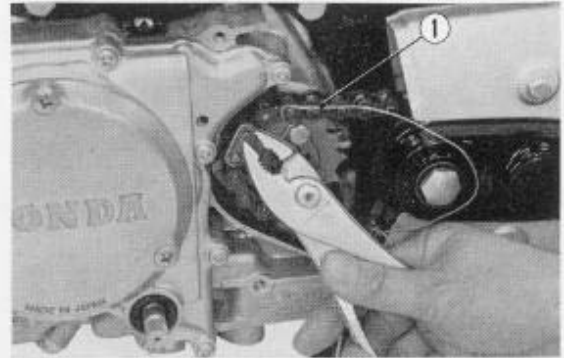

Fig. 4.94 Disconnecting drive chain
1. Remove the left crankcase rear cover, disconnect the drive chain. ①. (Fig. 4.94)